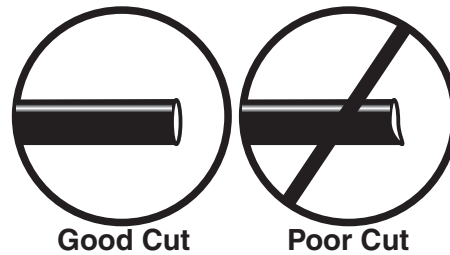

fig. 7
WHEN CUTTING OR TRIMMING THE AIR LINE, USE A HOSE CUTTER, A RAZOR BLADE, OR A SHARP KNIFE. A CLEAN, SQUARE CUT WILL ENSURE AGAINST LEAKS. DO NOT USE WIRE CUTTERS OR SCISSORS TO CUT THE AIR LINE. THESE TOOLS MAY FLATTEN OR CRIMP THE AIR LINE CAUSING IT TO LEAK AROUND THE O-RING SEAL INSIDE THE ELBOW FITTING (FIG. 7).
- a. Check the air line connection by deflating the spring and removing the line by pulling the collar against the fitting and pulling firmly on the air line. Trim 1" off the end of the air line. Be sure the cut is clean and square (see fig. 7). Reinsert the air line into the push-to-connect fitting.